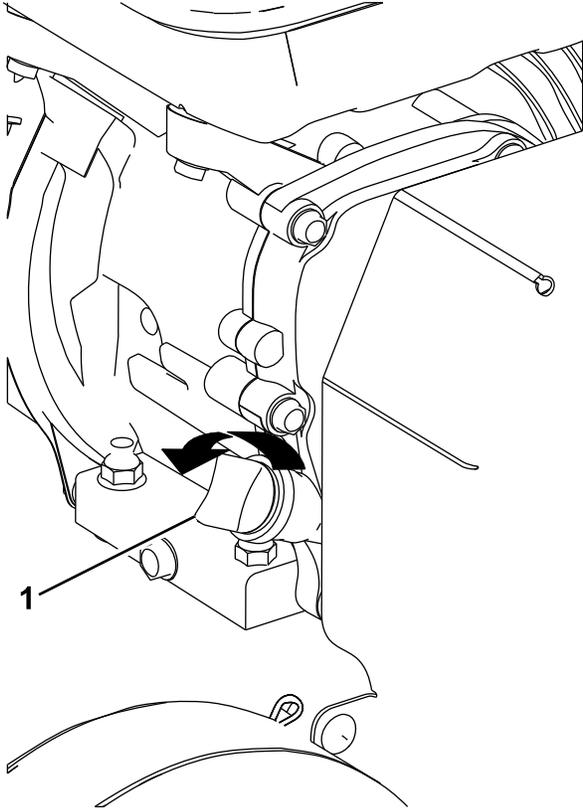

Figure 10
2. Clean around the dipstick (Figure 10) so that dirt cannot fall into the filler hole and damage the engine.
3. Unscrew the dipstick and wipe the end clean (Figure 10).
4. Insert the dipstick fully onto the filler tube. Do not screw in. (Figure 10).